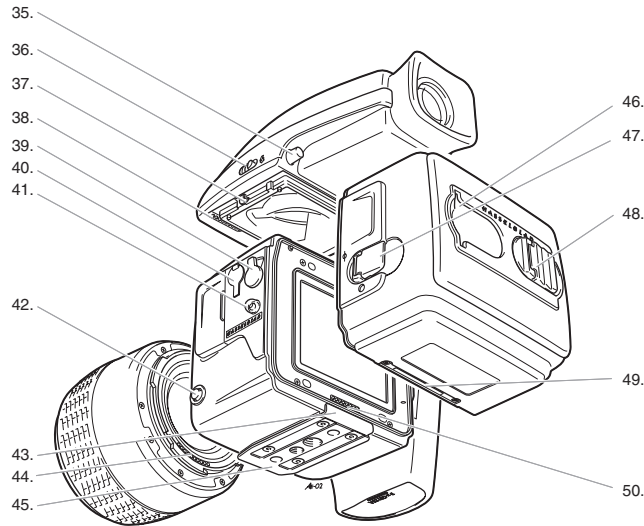

Figure 4-1 (Continued)
The basic camera operations on all H models are the same, and everything discussed in this chapter applies to all models unless indicated differently. Figure 4-1 shows the H camera and its controls, which apply to all the different models.
Figure 4-1 The H1 camera and camera controls. Note that controls 10, 11, and 12 are at the rear of the grip and are not visible here. (1) Flash unit hot shoe; (2) rubber eyecup; (3) exposure mode and metering mode selector button; (4) exposure compensation button; (5) eyepiece adjustment dial; (6) magazine LCD; (7) LCD illumination button; (8) magazine control buttons; (9) magazine settings lock; (10) AE-L button; (11) film wind-off button; (12) user button; (13) rear control wheel; (14) grip LCD; (15) support strap lug; (16) camera control buttons; (17) magazine databus; (18) front control wheel; (19) shutter release button; (20) battery holder button; (21) release cord socket; (22) stop down button; (23) battery holder retaining lever; (24) mirror up button; (25) battery holder; (26) flash unit; (27) viewfinder screen; (28) focus assist light; (29) mirror; (30) distance and depth-of-field scales; (31) focusing ring; (32) lens shade bayonet; (33) filter screw thread; (34) databus connection; (35) viewfinder release button; (36) flash unit catch; (37) viewfinder attachment hook; (38) viewfinder databus connection; (39) magazine release button; (40) flash PC socket; (41) camera strap lug; (42) lens release button; (43) magazine support; (44) databus connection; (45) quick coupling tripod plate; (46) film tab holder; (47) magazine darkslide key; (48) film holder key; (49) magazine support groove; and (50) databus connection.
To attach a lens to the camera body, align the red index on the rear lens mount with the red index on the camera body; then turn the lens approximately one-quarter turn until it clicks into position. To remove lenses, press the Lens Release button (item 42, Figure 4-1) on the side of the camera, and turn the lens in the opposite direction. Do this while holding the lenses by the metal lens barrel, not by the rubber focusing ring. As there is no mechanical connection between camera and lens, lenses can be removed or attached at any time. Keep the electronic Databus connections between camera body and lenses clean and do not touch them with your fingers. Attach rear covers to detached lenses and place a front cover on the camera body if it is stored without a lens attached.
You can attach or remove both eye-level viewfinders from the camera without removing the film magazine, digital back, or lenses. To remove a finder, press the Viewfinder Release button (item 35, Figure 4-1), and lift the finder upward. To attach a finder, hold the finder at a slight angle and slide it forward and downward until it clicks into position. Make certain that it is locked on both sides.
After you make that decision, you must adjust the finder to your eyesight. To do so, it is best, but not necessary, to remove the lens from the camera so you see nothing but the focusing screen. Turn the eyepiece adjustment control (item 5, Figure 4-1) on the side of the finder until you see a sharp image of the spot meter and focusing indications on the screen. After the first adjustment, move your eye away from the finder, look at something in the distance for a few seconds to relax your eye, and then view through the finder again to see whether the image is still sharp. If it is not, make a new adjustment and repeat the process. If you make this adjustment with a lens on the camera, make certain that you adjust the diopter correction for a sharp image of the screen markings, not of the image itself.
The H film magazines have a built-in darkslide curtain that can be closed and opened manually by turning the magazine darkslide key (item 47, Figure 4-1 and Figure 4-5).
To remove the magazine from the camera body, turn the Magazine Release button (item 39, Figure 4-1) on the camera body to the right while pressing the central round part of the circular button toward the camera body. The darkslide curtain cannot be opened on a detached magazine because this would expose the film in the magazine to light.
You attach a magazine by simply placing the magazine support groove (item 49, Figure 4-1) into the support and pressing the magazine toward the camera body. Do not touch the Databus connections with your fingers. Place the protective cover on the magazine and
1. Move the settings lock switch (item 9, Figure 4-1) on the side of the magazine to the unlocked position (toward the camera) covering up the white area.
4. After the settings are made, lock them by setting the lock control (item 9, Figure 4-1) in the direction of the arrow, away from the camera body so that the white area is visible. The locking button is also marked with a key symbol and an arrow, which might help you to remember that you lock the settings by turning the key in the direction of the arrow, moving the lever in the same direction. To illuminate the panel, press the Illumination button on the magazine. With the magazine attached to the camera, the LCD is illuminated when the Illumination button on the camera is pressed.
To load the film with the magazine on or off the camera, fold out the film holder key (item 48, Figure 4-1) and turn it 90 degrees counterclockwise. This allows you to remove the film holder. Remove the paper band completely from the new roll of film, and place the spool on the bottom side of the film holder (clearly indicated by an arrow pointing away from the spool), with the film rolling in the direction of the arrow. Place the take-up spool on the other side (clearly indicated by an arrow pointing toward the spool), again with the film entering in the direction of the arrow.
Slide the beginning of the paper leader into the slot in the spool as usual. I recommend that you manually wind the film one or two turns onto the spool before reinserting the holder into the magazine to ascertain that the film is firmly attached. Lock the insert with a clockwise turn on the film holder key (item 48, Figure 4-1). Open the darkslide curtain if necessary.
1. Unlock the setting lock lever (item 9, Figure 4-1).